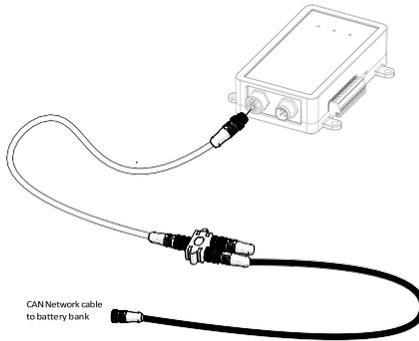

Figure 18. CAN connection J1 to BCI
9. Following these steps will establish the CAN Bus connection between the LFP batteries and the BCI unit as depicted in Figure 18, CAN connection J1 to BCI.